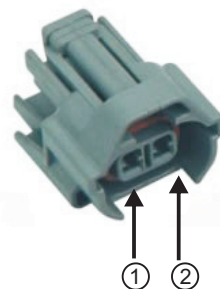

Fig.2
**Code SA144J:** it must be used if the positive pole of the original injectors is on PIN No.1 and the negative pole on PIN No.2. Refer to Fig.2.
**Code SA144JINV:** it must be used if the positive pole of the original injectors is on PIN No.2 and the negative pole on PIN No.1. Refer to Fig.2
Wiring **Code SA144SJ** is equipped with "JAPAN" type pins and with an extended wiring in order to install it on SUBARU cars with BOXER engine. It must be used **ONLY** if the positive pole of the original injectors is on PIN No.2 and the negative pole on PIN No.1. Refer to Fig.2.